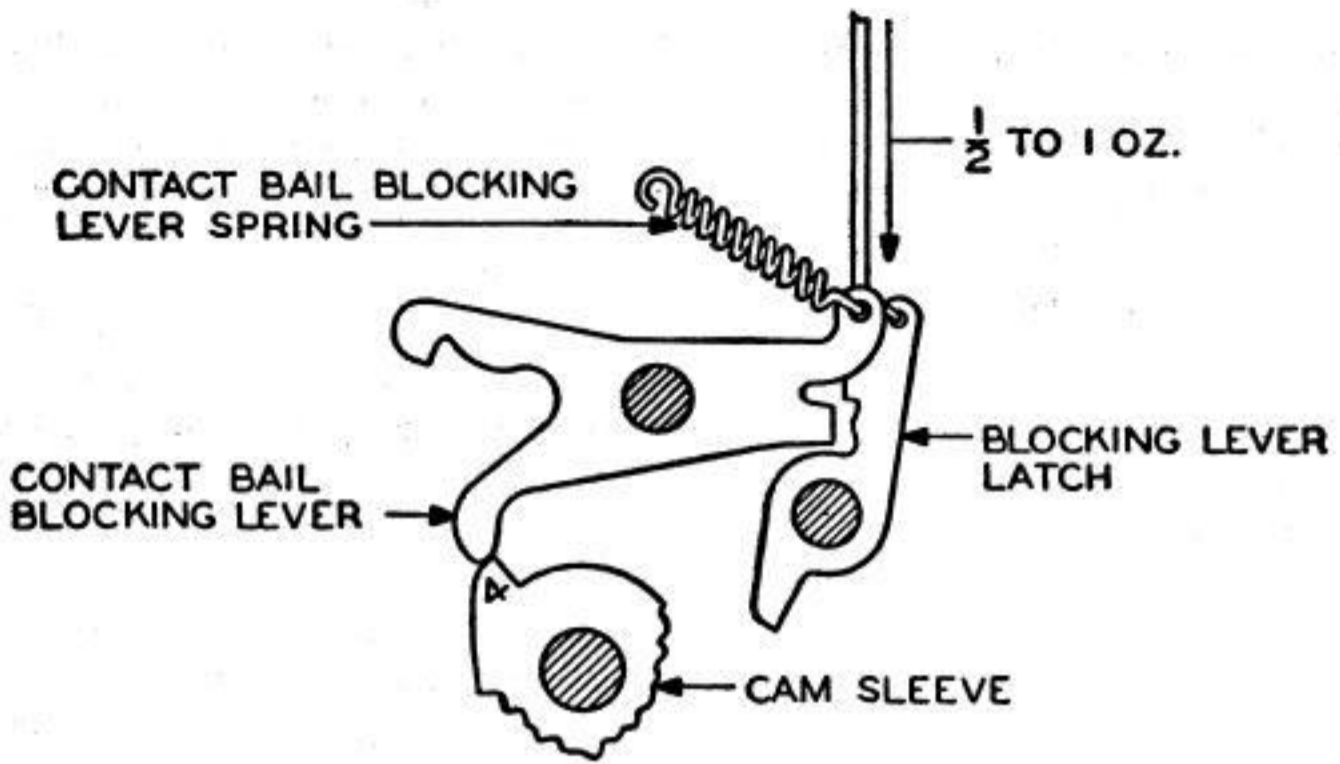

Fig 35
4.06 **Contact-Bail Blocking-Lever Spring:** It should require Min 1/2 oz, Max 1 oz, to just start the lever moving. **Fig 35**